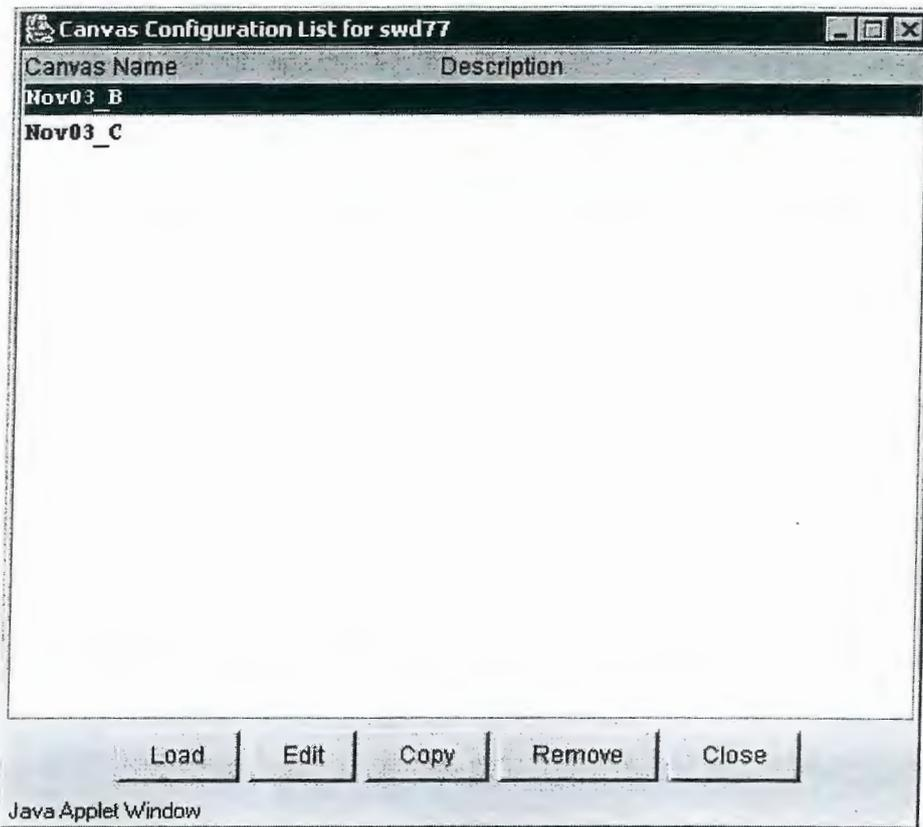

Figure 3-8 Saved Canvas Configuration
2. Select **Save Current Canvas Configuration**. Figure 3-8 shows an example of saved canvases.